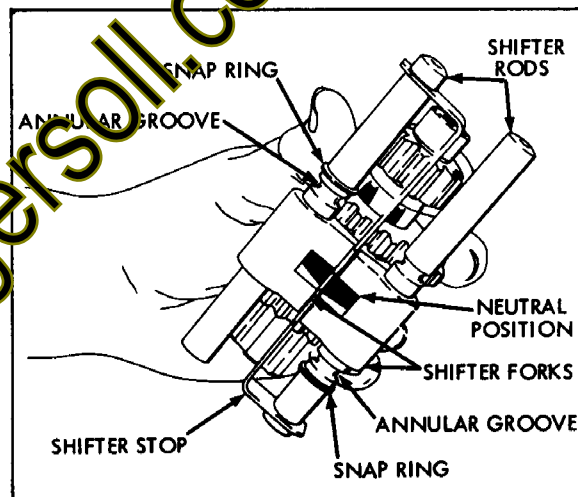

Figure 3-9
4. When the shifter forks are properly assembled to the shifter rods and positioned in neutral, the ends of the notches in the shifter forks are in alignment. (Figure 3-9)